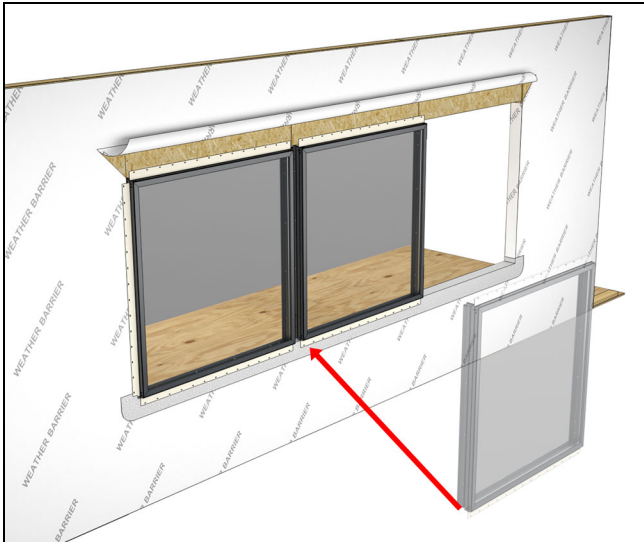
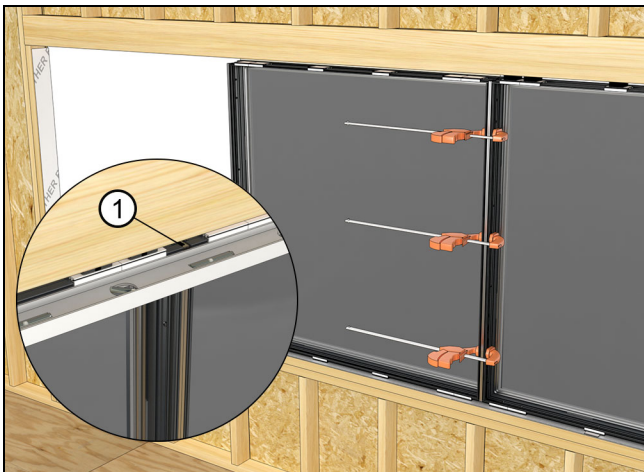

Figure 29
Figure 30
1. Set the next unit close to the A1 unit. Clamp the two units together making sure the windows are flush to one another on all planes (interior/exterior and top and bottom). See Figure 29 and Figure 30.